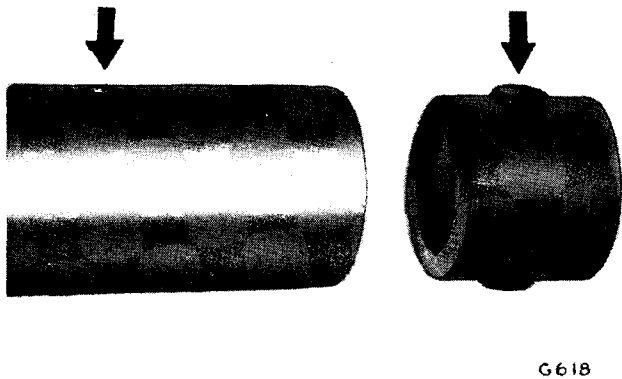

Fig. 27. Protrusions on rubber bushes
1. Remove the cable trough (37).
2. Prise the horn push assembly (51) from the steering wheel boss and withdraw the contact brush (48).
4. Remove the bolts (13), spring washers (14), and detach the halves of the impact clamp (11) and (12). Withdraw the lower column (1) downwards and detach the nylon washer (16). Withdraw the upper inner column (15) and the steering wheel (45) from the top of the outer column (22).
5. Hold the column (15) in the protected jaws of a vice and remove the nut (50), plain washer and spring clip (47). Use an extractor to remove the wheel from the column.
6. Remove the end cap (18) and depress the protrusions on the rubber bushes (21) and (41) as shown on Fig. 27. Using a length of bar, eject the bushes from the outer column (22). Remove the metal inserts (20) (42) and nylon bushes (19) (4) from the rubber bushes.
1. Assemble the nylon bush (19) and steel sleeve (20) to the rubber bush (21) and push the assembly into the bottom of the outer column (22) engaging the locating lugs with the holes as shown on Fig. 27. Ensure that the metal reinforcement ring at the end of the bush is positioned towards the lower end of the column. Repeat the procedure with the upper bush assembly.
2. Fit the end cap (18) to the lower end of the column (22).